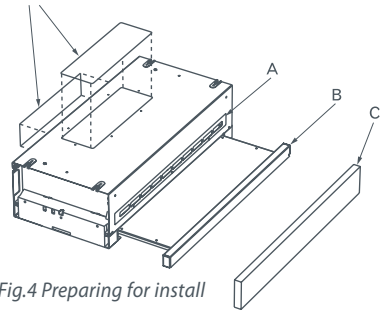

Fig.4 Preparing for install
If the rangehood is to be installed as a recirculating hood, the knockouts shown in Fig.4 should not be removed. For recirculation please purchase a charcoal filter (R103794C).
If the rangehood is to be installed as a ducted hood, remove the appropriate duct knockout. See Fig.4.
- 1 Remove Cover Tape 'A'. See Fig.4.
- 2 If 80 mm handle is not installed. Remove Front Fascia 'B' by undoing 3 screws on the fascia (see Fig.4).